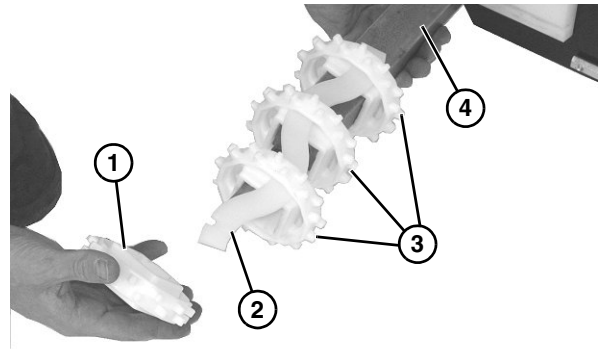

Figure 46
11. Slide entire sprocket assembly slightly outward, and remove the first sprocket (**Figure 46, item 1**) off the drive spindle and alignment bar (**Figure 46, item 2**).
12. Remove remaining sprockets (**Figure 46, item 3**) off the alignment bar as you slide entire assembly off the drive spindle (**Figure 46, item 4**).